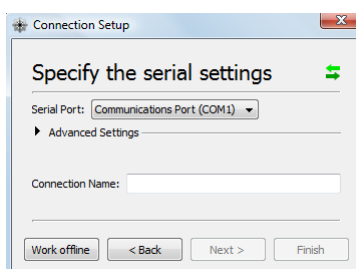
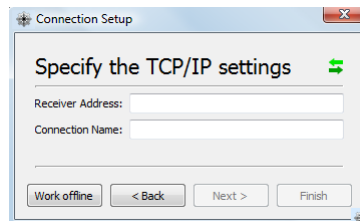
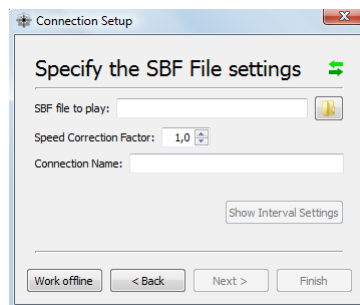

Figure 2-4: Create Serial Connection dialog
Figure 2-5: Create TCP/IP Connection dialog
Figure 2-6: Create SBF File Connection dialog
5. A dialog window (see Figure 2-4 on page 23) to select the communication port will be shown (by default the serial port settings are not shown and are correctly filled in for the default receiver settings). If the Septentrio Receiver is connected to your PC's COM2 port, change the `Serial Port` to COM2.
Connecting over a Local Area Network (LAN) or over the Internet using a TCP/IP socket is much simpler than via a serial port. All you need to provide in this case is the hostname or the IP address of your Septentrio Receiver (see Figure 2-5 on page 24).
At first use of RxControl, the user has to create a new serial, TCP/IP or SBF file replay connection and RxControl does not present the `Use Last Connection` option in the `Change Connection` dialog. Creating a new serial, TCP/IP or SBF file replay connection is done by selecting the `Create New` option in the corresponding drop-down list. The `Finish` button will become grayed out and the `Next >` will become available indicating that the user has to enter additional information. Pressing the `Next >` button pops up a `Create a new Serial connection` (see Figure 2-4), a `Create a new TCP/IP connection` dialog (see Figure 2-5 on the next page) or a `Create a new SBF file connection` dialog (see Figure 2-6 on the following page).